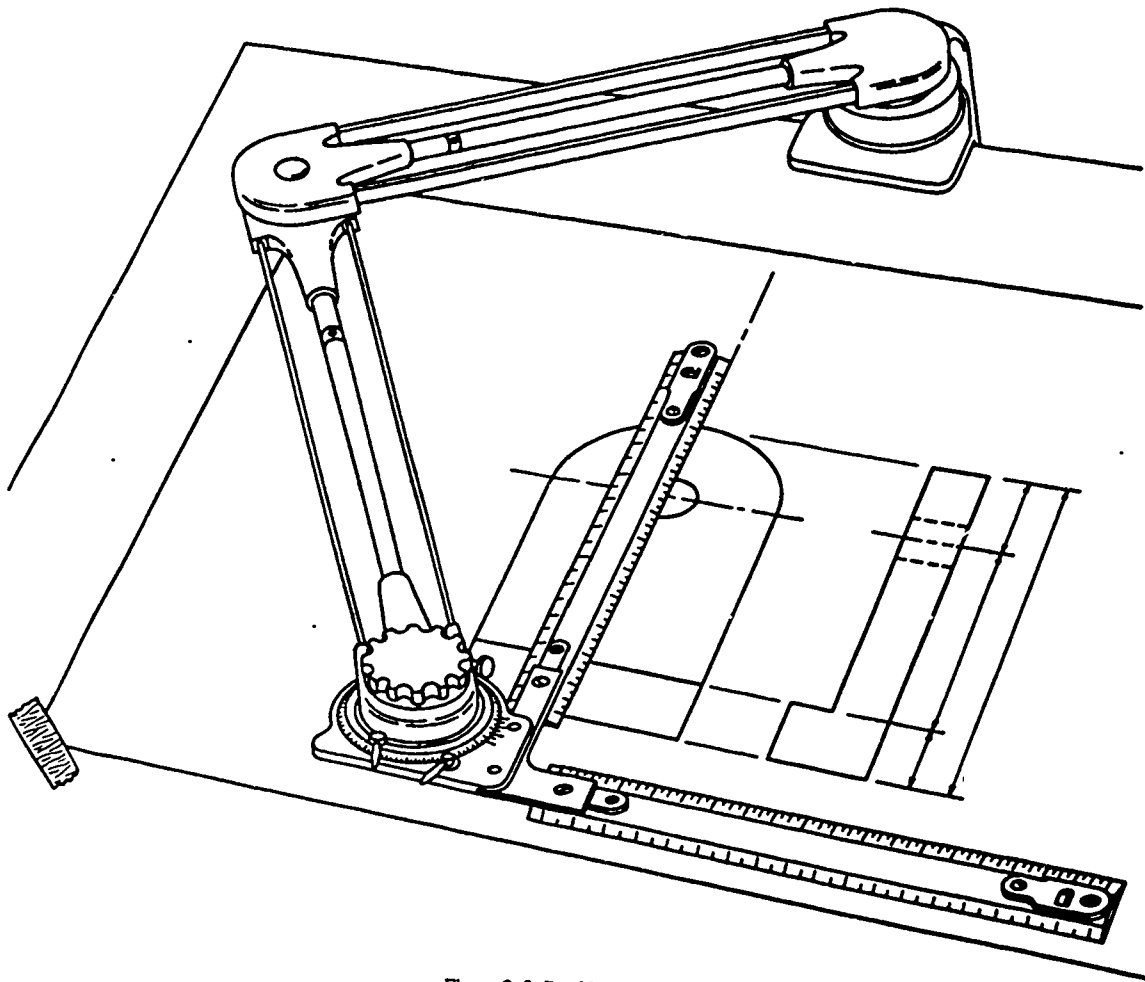
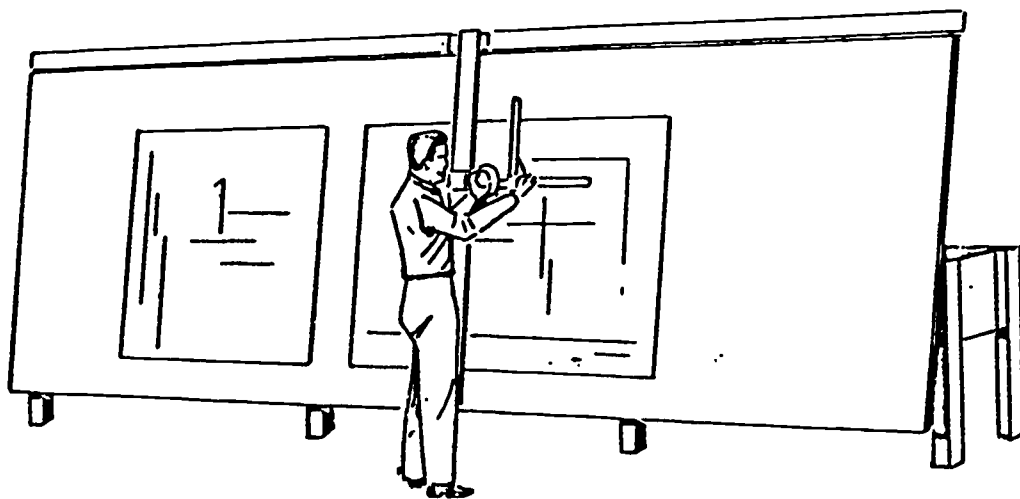

Figure 2-8. Drafting machine.
Figure 2-9. Tracked-type drafting machine.
**Drafting Machines.** The drafting machine—or parallel motion protractor, as it is sometimes called—is one of the most useful and timesaving devices that you will use. You can use it in place of a T-square, triangle, scale, and protractor. There are two types of drafting machines—the arm-and-band type shown in figure 2-8 and the tracked type shown in figure 2-9. Essentially both machines are the same. The tracked type has the advantage of being more versatile, accurate, trouble free, and can accommodate larger drawings. The arm-and-band type, however, is more common and less expensive.
As you can see in figure 2-8, the drafting machine is attached to the top edge of the drawing table with the straightedges resting on the surface of the drawing table or paper. The controlling head of the machine provides a means of adjusting and locking the straightedges at any desired angle. The supporting links are arranged so that the straightedges always remain at the desired angle no matter where they are moved on the board. Thus, when the long blade is set to a horizontal position, it will remain horizontal regardless of the position of the control head on the drawing table. Interchangeable straightedges marked with standard scale divisions permit you to use the drawing machine for many types of drawing.